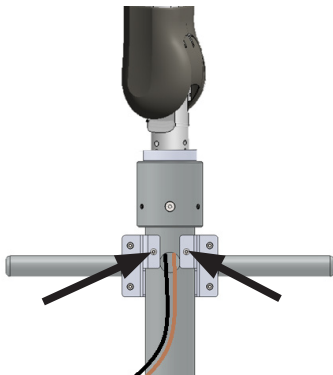

Figure 8: Remove M4x16 screws
- Remove two M4x16 Hex. Socket head cap screws from the base column using 3 mm allen key as shown in Figure 8 and keep them aside.